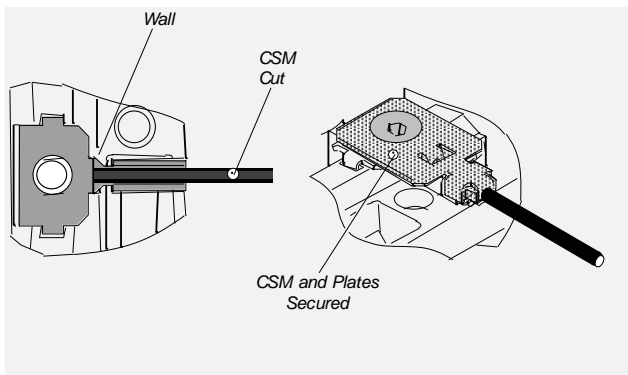
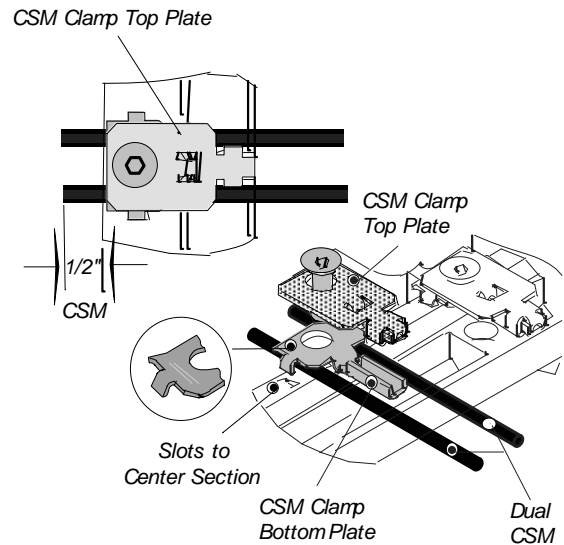

Figure 6a – Single CSM Clamp Installation
Figure 6b – Dual CSM Clamp Installation
11.03 Assemble the CSM retention clamp by installing the bottom plate into two alignment holes. Then, align the CSM or outer strength members and hand start the Allen head screw. Refer to **Figure 6a – Single CSM Clamp Installation**, and **Figure 6b – Dual CSM Clamp Installation**.